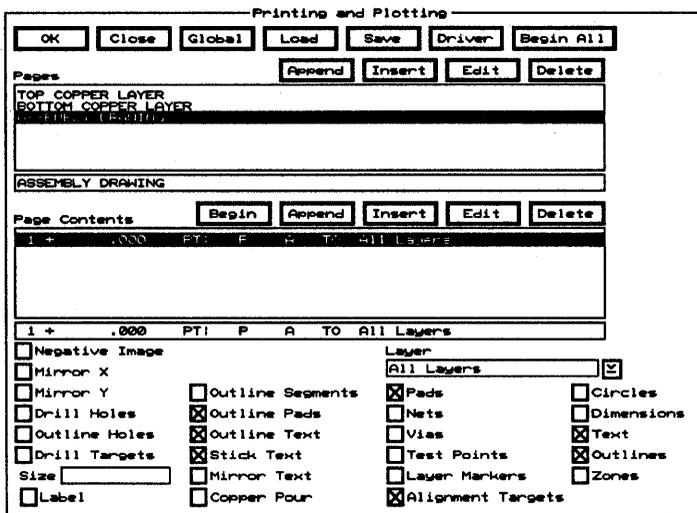

Figure 9-4. The configured printer pages.
7. Select **Append for Pages** to add ASSEMBLY DRAWING to the bottom of the list of items in the **Pages** list box. The three pages are configured, as shown in figure 9-4.